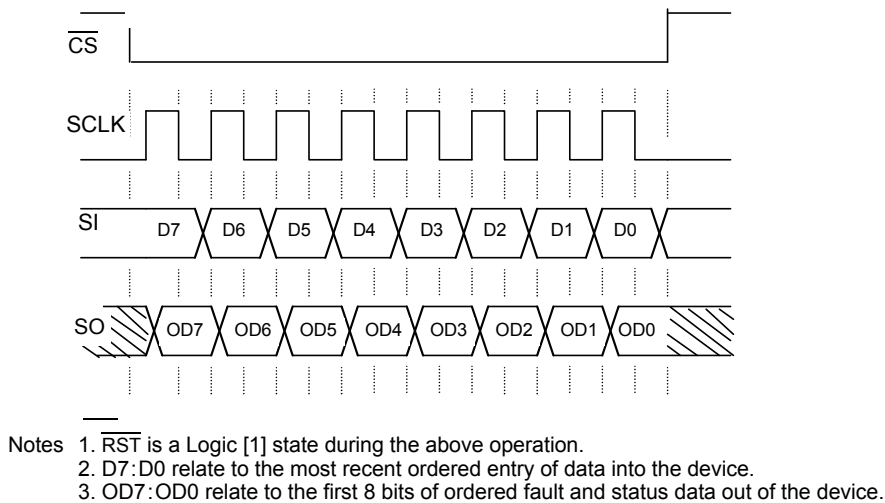
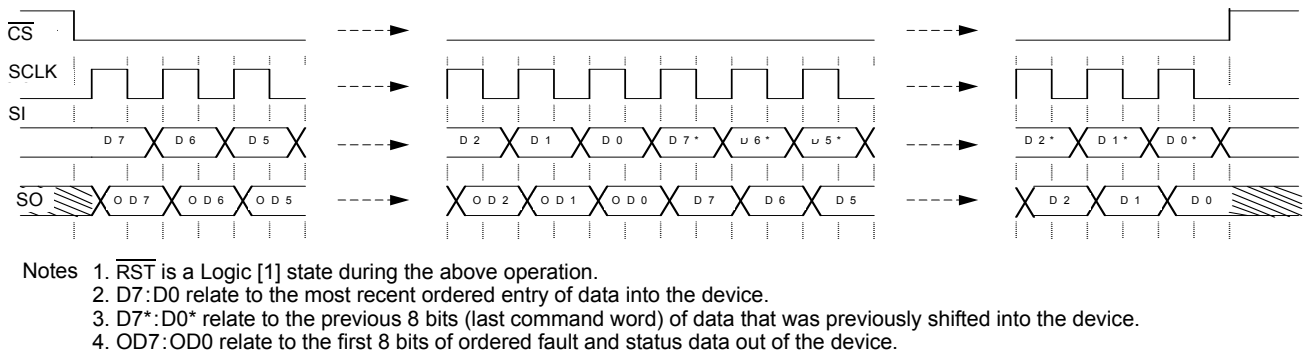

Figure 10. Single 8-Bit Word SPI Communication
Figure 11. Multiple 8-Bit Word SPI Communication
Serial clocks (SCLK) the internal shift registers of the 34984 device. The serial input (SI) pin accepts data into the input shift register on the falling edge of the SCLK signal while the serial output (SO) pin shifts data information out of the SO line driver on the rising edge of the SCLK signal. It is important that the SCLK pin be in a logic low state whenever CS makes any transition. For this reason, it is recommended that the SCLK pin be in a Logic [0] state whenever the device is not accessed (CS Logic [1] state). SCLK has an active internal pull-down, I_{DWN} . When CS is Logic [1], signals at the SCLK and SI pins are ignored and SO is tri-stated (high-impedance). See Figure 10 and Figure 11.